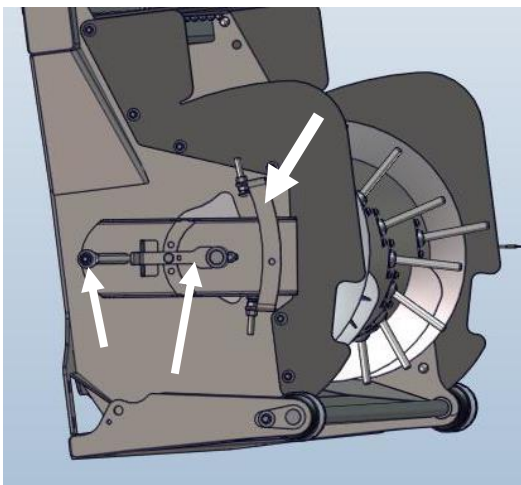

Figure 11
5. On the right-hand side remove the Finger timing arm and the limit bracket. The mounting plate assembly can now be removed by removing the rear mounting bolt. Figure 11